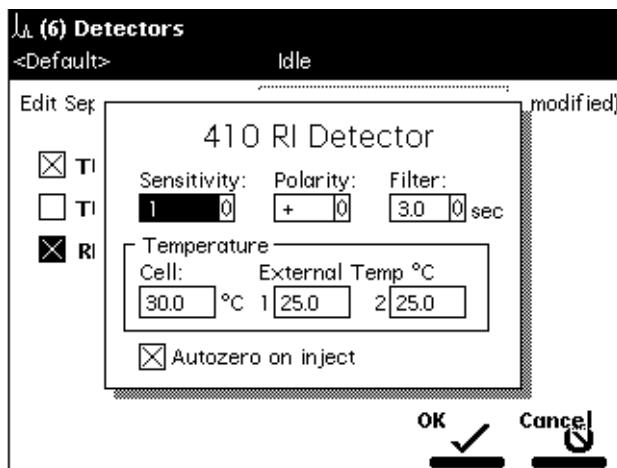

Figure 6-14 2410/410 RI Detector Screen
1. In the Detectors screen, press the **RI** screen key to display the 2410/410 detector screen (Figure 6-14).